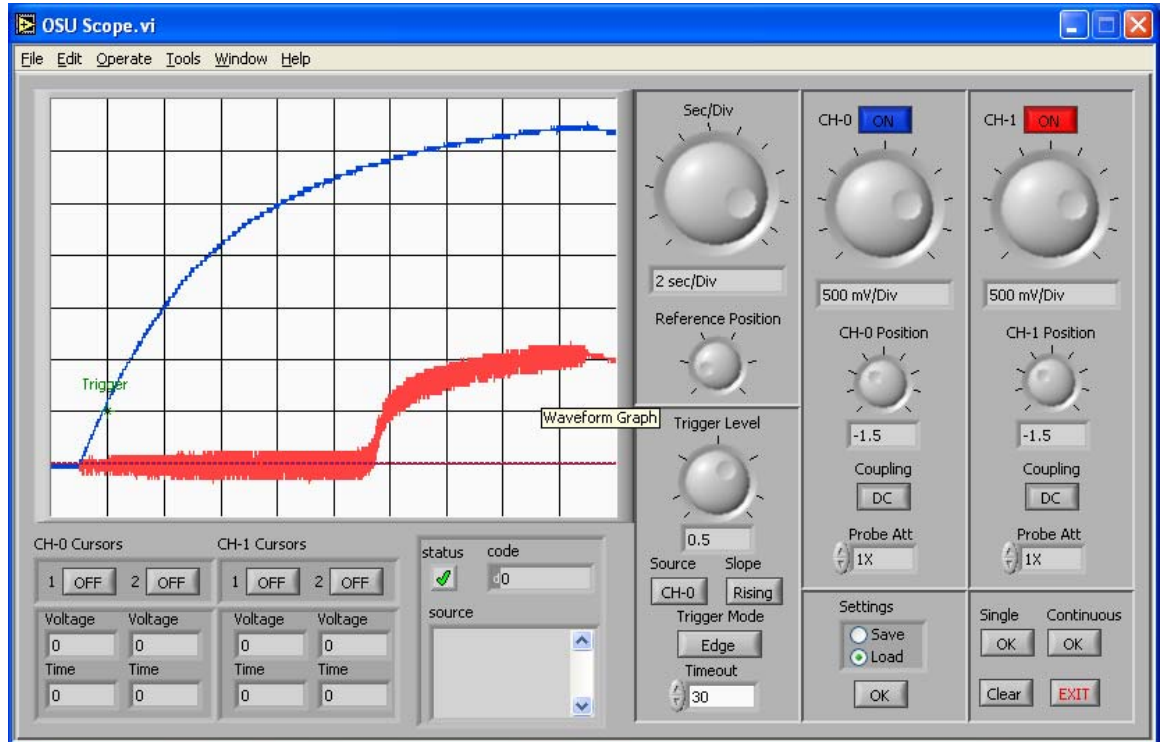

Figure 1. Task 1 settings and results.
- 1.8 Load the settings from file 'C:\apps\scope\CameraB_Task1.sco'. Do this by clicking the 'Load' radio button in the settings section and pressing 'OK' to open the file requestor window. Now check the O-Scope settings against Figure 1 below:
- 2.5 The ***O-Scope will appear to do nothing for about 20 seconds!!*** After about 20 seconds, two data traces should appear on the display, one for the capacitor voltage and one for the ready light voltage (ready light voltage this is actually the voltage of the resistor connected in series with the neon lamp. The trace should look very similar to the graph of Figure 1.